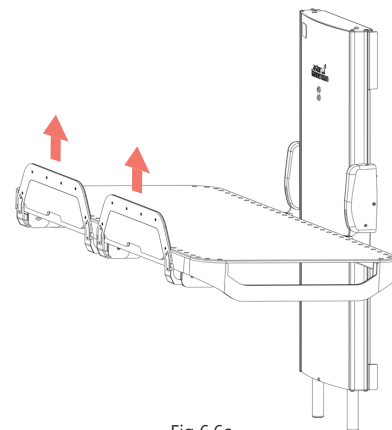

Fig 6.6c
- Once upright, the guard will be able to drop down into its location and lock into place. (Fig 6.6c)